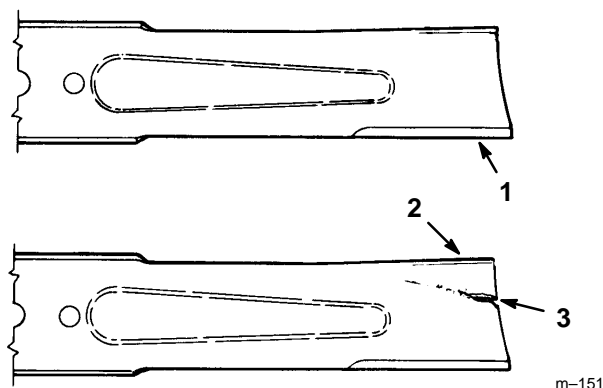

Figure 32
2. Inspect the cutting edges (Fig. 32). If the edges are not sharp or have nicks, remove the blade(s) and sharpen them; refer to Sharpening the Blade(s), page 32.
3. Inspect the blade(s), especially the curved area (Fig. 32). If you notice any damage, wear, or a slot forming in this area (Fig. 32), immediately install a new blade.